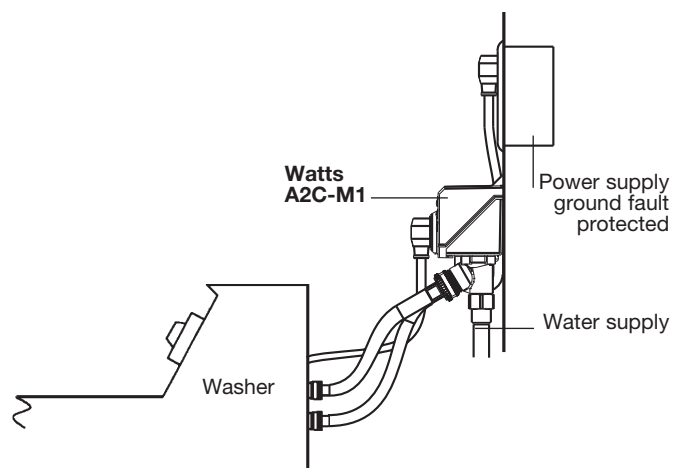

Figure 4
11. Plug the IntelliFlow®'s power cord into a house electrical receptacle (Figure 4).